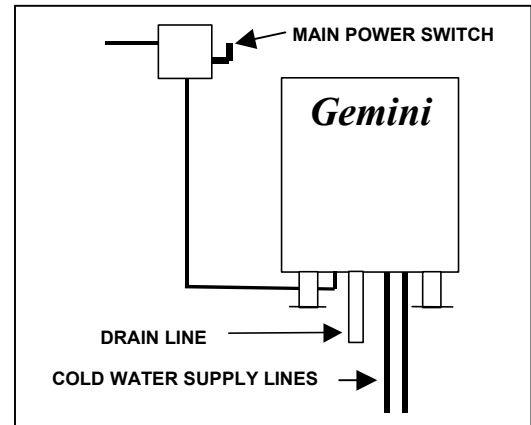

Figure 2-1 Main External Power Switch
4. Refer to the main power switch in Figure 2-1, and turn on electric power to the steamer. The steam generators will immediately start blowdown cycles. The blowdown cycle lasts 3 minutes.